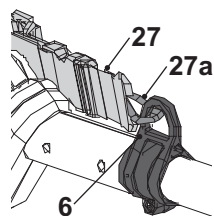

Fig. 21
4. Lock the harness (27) onto the loop (6) by the securing clip (27a) (Fig. 21).